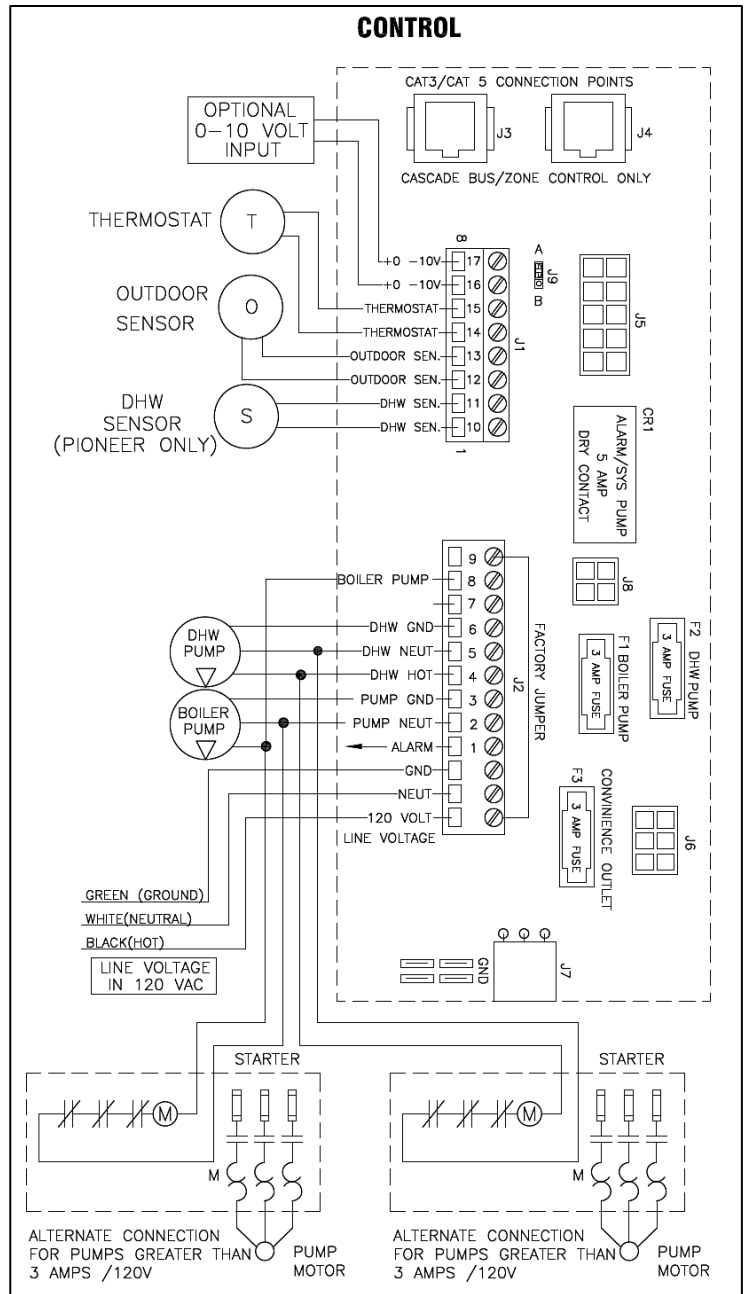

Figure 22 –Control Detail LP-325-P1
2. Connect the central heating pump to the terminals marked 8 (HOT), 2 (NEUT), 3 (GND) in Figure 22. The connections shown are suitable for a maximum continuous pump draw of 5 amps at 120 volts. If the pump requires more current or voltage other than 120 volts, an external motor starter or contactor will be required.